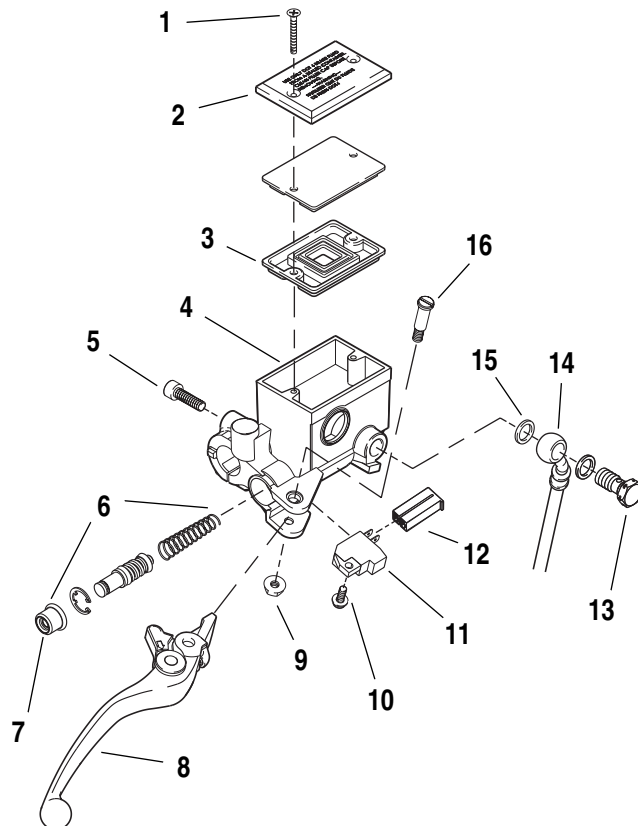
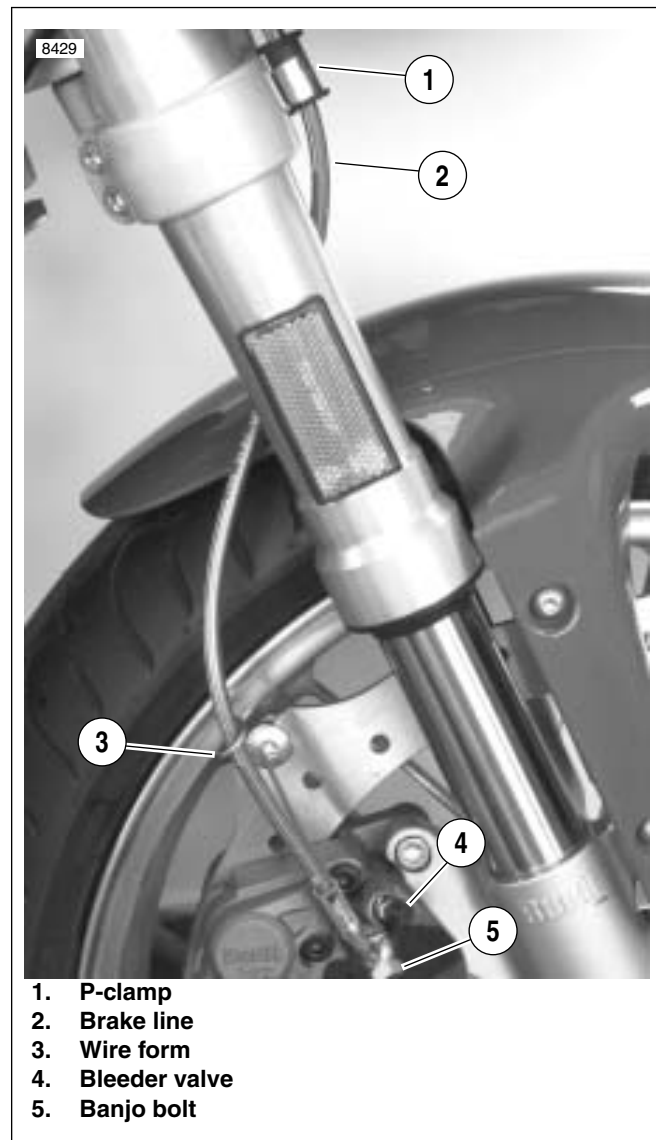

Figure 2-37. Front Brake Hand Lever Assembly
Figure 2-42. Front Brake Line
2. See Figure 2-37. Remove the banjo bolt (13) (metric) and two copper washers (15) to disconnect brake line (14) from master cylinder (4). Discard copper washers.
3. Unplug terminal (12) to detach brake lamp switch (11).
1. See Figure 2-37. Remove pivot bolt nut (9) (metric) and pivot bolt (16) from hand lever pivot.
2. Detach front brake hand lever assembly (8) from hand lever pivot.
3. Detach front brake lamp switch (11) by removing the switch fastener (10).
1. See Figure 2-37. Remove master cylinder cover (2) by removing cylinder cover fasteners (1).
3. Remove rubber boot (7) and discard.
5. See Figure 2-37. Remove piston assembly (6) from front master cylinder reservoir (4) and discard.
4. See Figure 2-37. Insert piston assembly (6), spring first, into master cylinder reservoir (4).
1. See Figure 2-37. Lubricate pivot bolt (16) with LOCTITE ANTI-SEIZE.
2. Align hole in hand lever (8) with hole in hand lever pivot and install pivot bolt (16) through top of hand lever pivot and tighten nut to 80-120 **in-lbs** (9-14 Nm).
1. See Figure 2-37. Install front brake lamp switch (11).
- a. Install brake lamp switch (11) with switch fastener (10) and tighten to 7-10 **in-lbs** (0.8-1.0 Nm).
- b. Connect brake switch terminal (12) to brake lamp switch (11).
3. See Figure 2-37. Connect brake line to master cylinder using two **new** copper washers (15) and banjo bolt (13) (metric) and tighten to 16-20 ft-lbs (22-27 Nm).
5. See Figure 2-37. Remove two master cylinder cover screws (1), cover (2) and cover gasket (3).
10. See Figure 2-37. Attach master cylinder cover (2) and cover gasket (3). Tighten two cover fasteners (1) to 9-13 **in-lbs** (1.0-1.5 Nm).
2. See Figure 2-42. Remove p-clamp (1) detaching brake line from right side of lower fork clamp.
3. See Figure 2-37. Remove master cylinder banjo bolt (12) (metric) and two copper washers (14) to disconnect brake line from master cylinder (4). Discard copper washers.
4. See Figure 2-42. Remove caliper banjo bolt (5) (metric), two copper washers and wire form (3) to disconnect brake line (2) from caliper. Discard copper washers.
1. See Figure 2-37. Connect brake line (13) to master cylinder (4) using two **new** copper washers (14) and a banjo bolt (12) (metric). Loosely install bolt into master cylinder.
- a. See Figure 2-42. Install **new** copper washer, brake line (2), **new** copper washer and wire form (3) onto banjo bolt (5).
- b. Finger tighten banjo bolt (5) onto front caliper being careful not to pinch wire form (3) while tightening, wire form should rotate around banjo bolt freely.
- c. Twist brake line (2) into wire form (3) spiral and clock wire form against bleeder valve (4).
4. Tighten p-clamp with fastener (1) on lower triple clamp to 36-60 **in-lbs** (4-7 Nm).
5. See Figure 2-37. Tighten master cylinder banjo bolt (12) (metric) to 16-20 ft-lbs (22-27 Nm).
6. See Figure 2-42. Tighten brake caliper banjo bolt (5) (metric) to 16-20 ft-lbs (22-27 Nm).